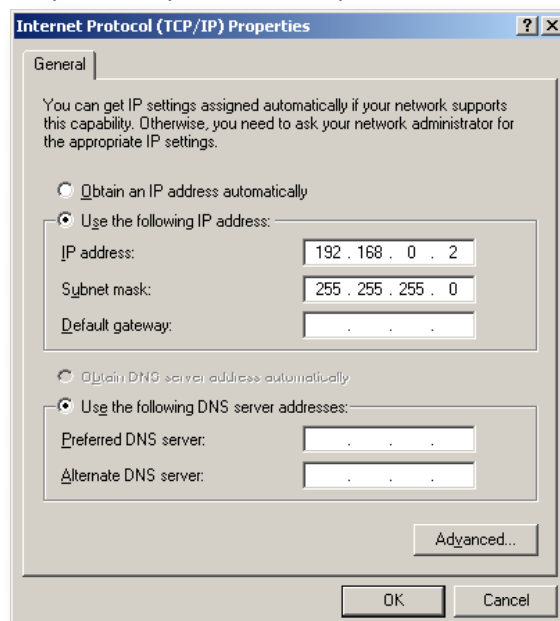

Fig. A-6 Configuring an IP address
4. Select the entry *Internet Protocol version 4* and click Properties. You now see the screen shown in Fig. A-6. As shown, select Use the following IP address and enter 192.168.0.2 as the IP address for your computer as specified. The specified subnet mask is filled in automatically.